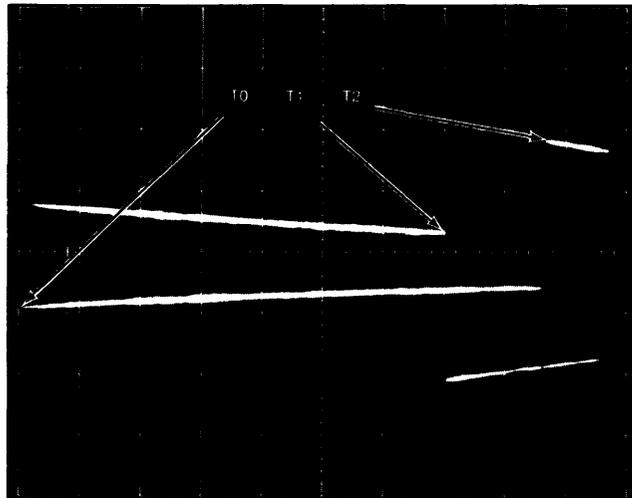

Figure 5-8: Track 0 Waveform
8. With the scope connected and setup, the pattern should be similar to that of Figure 5-8. The duration of the pulse from T0 to T1 must be 15ms or less time T0 to T2 20ms or less.